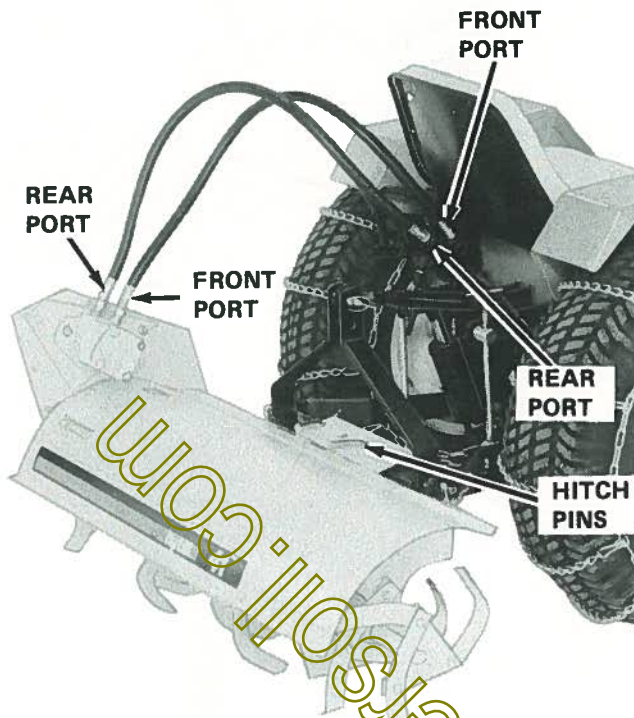

FIGURE 9 Hose Connections - Tiller connected to L17 or prior PTO shown
3. See Figure 9 for hose installation on 200 and 400 series tractors with an L17 or prior PTO installed. Install hoses from: